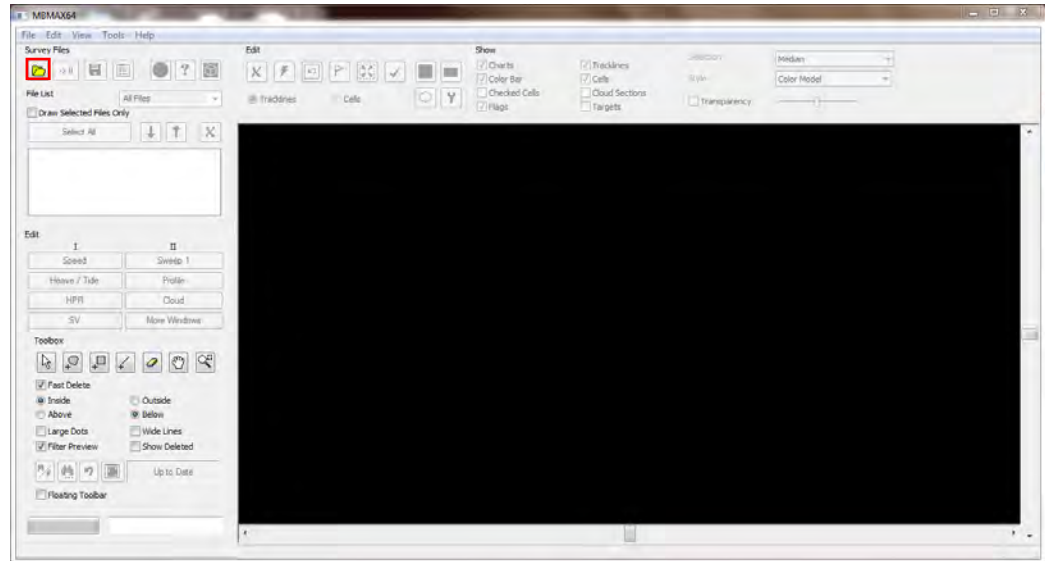

Figure 54: "Load survey" icon on MBMAX64 windows of HySWEEP
- ⇒ A new window, called MBMAX64, will be displayed (Figure 54)
- ⇒ Click on the yellow folder icon ("Load survey") (Figure 54)